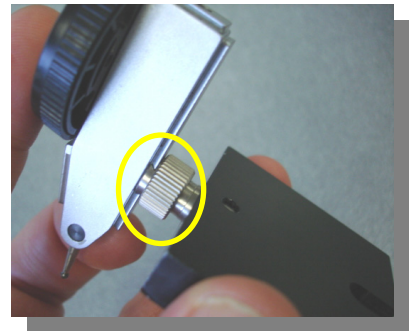

Figure 15
- 3) Slide the long edge of the dial indicator onto the dovetail on the silver pin of the adapter plate (Figure 15).